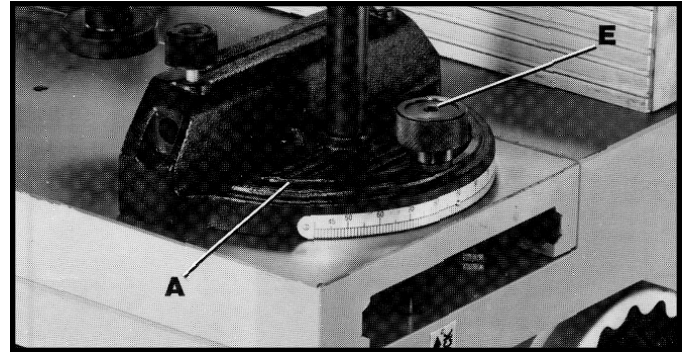

Fig. 49
2. Figure 49, illustrates miter gage (A) and lock knob (E) assembled to the sliding table.
3. **NOTE:** The miter gage is adjustable from 90 degrees to 40 degrees right and left. To rotate the miter gage, loosen lock knob (E) and move the miter gage body (A) to the desired angle.